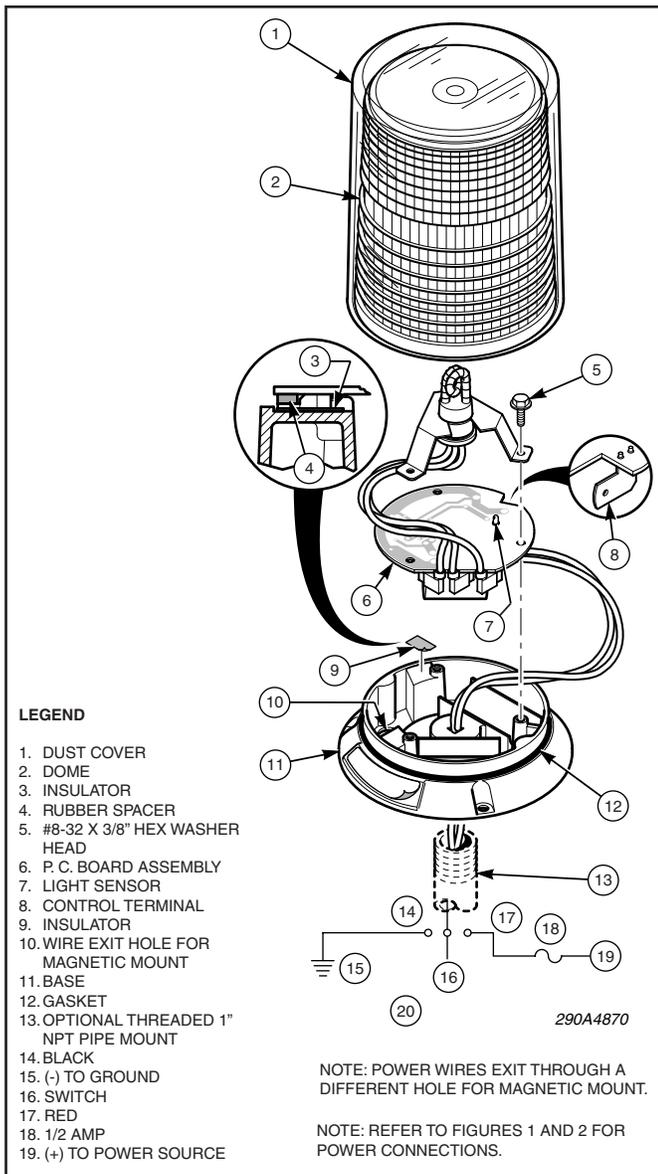

Figure 3.
The UltraStar Premium incorporates a dimming feature that includes an automatic sensor that adjusts the light output for day or night conditions (see figure 3). Additional installation is not necessary for automatic operation.
- c. See figure 3. Locate the notch on the edge of the circuit board. The manual override control terminal is located under the notch. Determine the length of wire needed for the installation. For the pot-tered Model 252600, locate the gray control wire at the power exit and proceed to paragraph C.4.j.
- f. See figure 3. Remove and retain the three screws that secure the bracket and PC board to the base. Retain the insulator and rubber spacer. Carefully lift the PC board assembly.